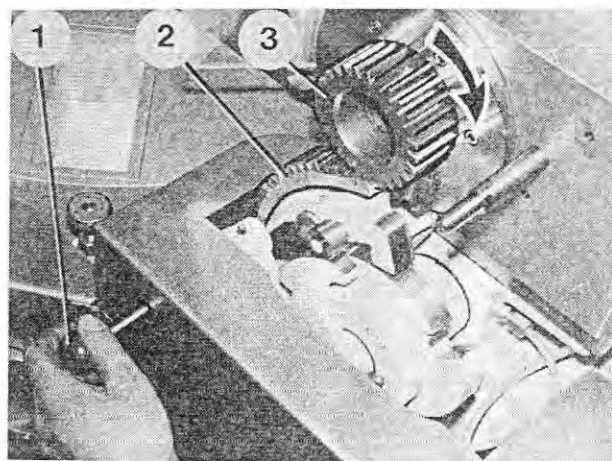

Fig. 177
5. Pull out the index pin (Figure 177/1) and turn the rotary cylinder on the other side of the dosing case in the direction of the arrow until the toothed wheel (Figure 177/3) has released the toothed segment (Figure 177/2).